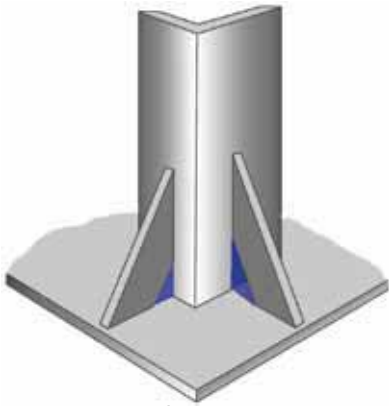

Figure 7: Cropped bracing
- Where gusset plates are used, generously cropped corners provide for free drainage. When cropping gusset plates is not possible, holes at least 1/2-inch (13 mm) in diameter must be placed in the plates as close to the corners as possible (*Figure 7*).